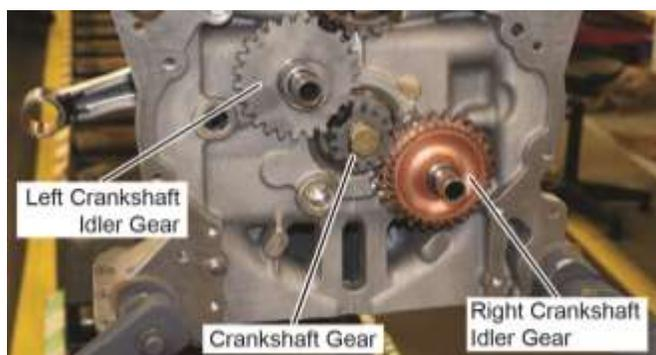

Figure 96
- A. Install the left crankshaft idler gear (Figure 96) in place on the idler gear shaft with a new bushing (Figure 2). Turn the crankshaft gear and/or the camshaft gear to align the gears.